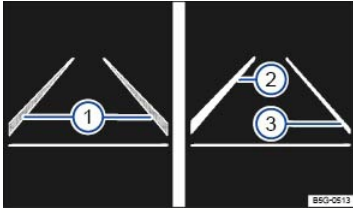

Fig. 132 In the instrument cluster display: Lane Assist display (displayed in color on an instrument cluster with color display).
Lane Assist works at speeds above about 40 mph (65 km/h) when lane markings can be identified ⇒ *Fig. 132*. The green indicator light comes on.
**Lane Assist display in the instrument cluster** ⇒ *Fig. 132* :
- ① Lane marking detected (shown in gray). No regulation is necessary.
- ② Lane marking detected (shown in white). System is actively regulating.
- ③ No lane marking detected. System is not regulating.